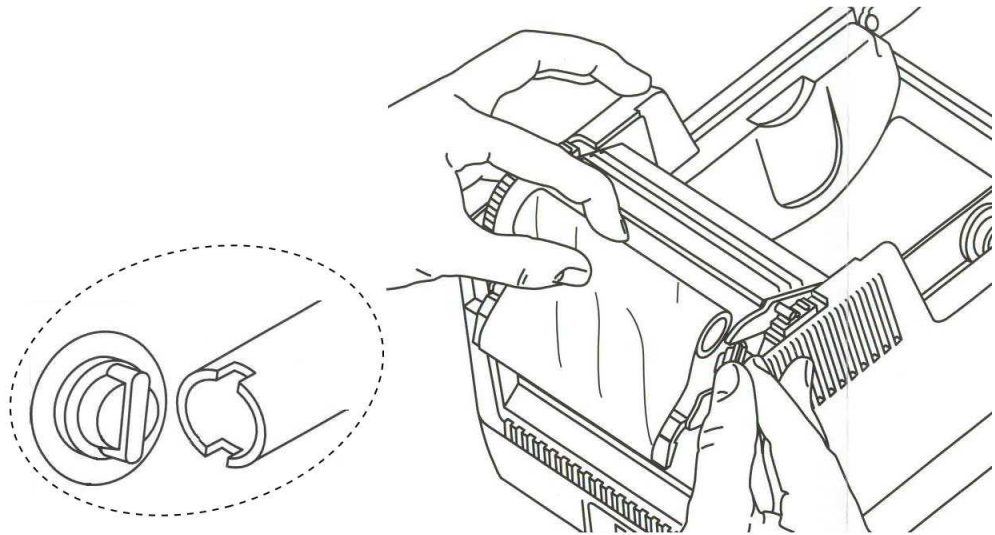

Figure 3-5. Loading Thermal Transfer Ribbon (continued)
4. Refer to Figure 3-5. Turn the ribbon take-up core to align the slotted end with the take-up mount.